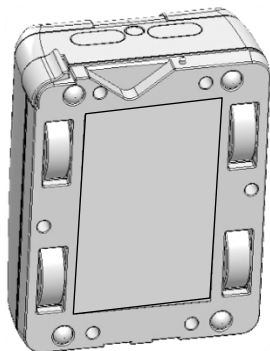

Figure 2
- Step 3: Keep holding Unit as Figure 2, by one hand, hold a damp cloth with opposite hand, press along each moving tires surface.